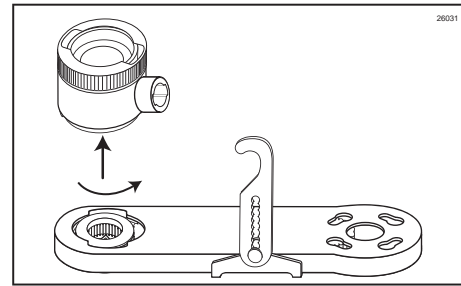

Figure 28
3. Rotate the Injector Head to unlock it from the Gear Box. (See Figure 28.)